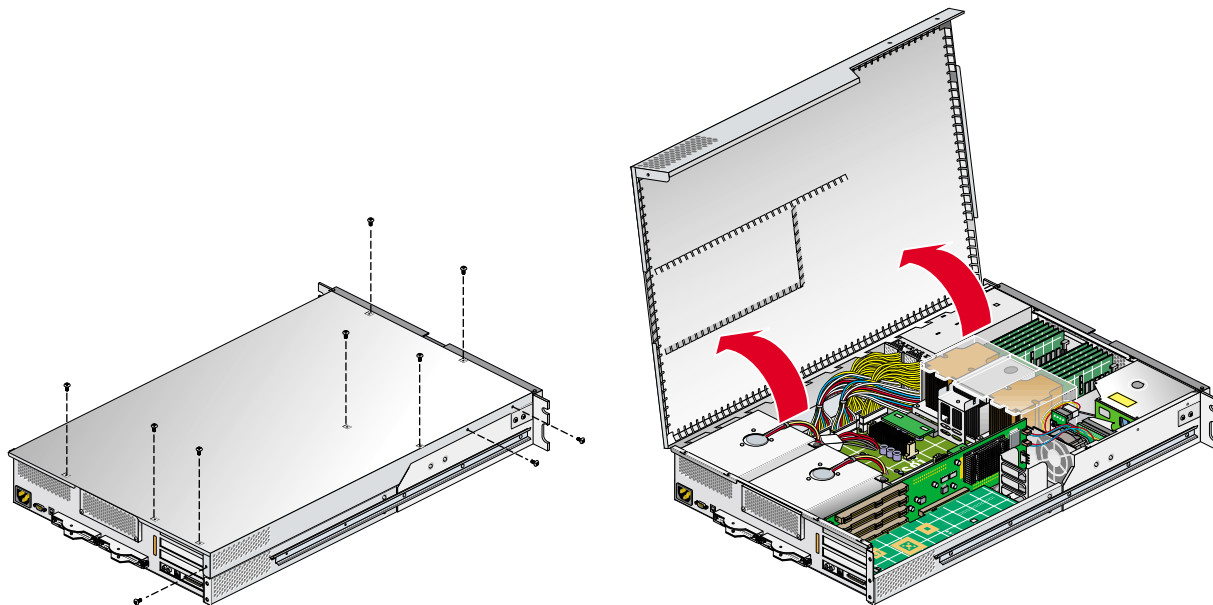

Figure 4-10 Opening the Cover to Remove the Card
8. To access the card, remove the ten Phillips screws, as shown in Figure 4-10, and lift the hinged cover.